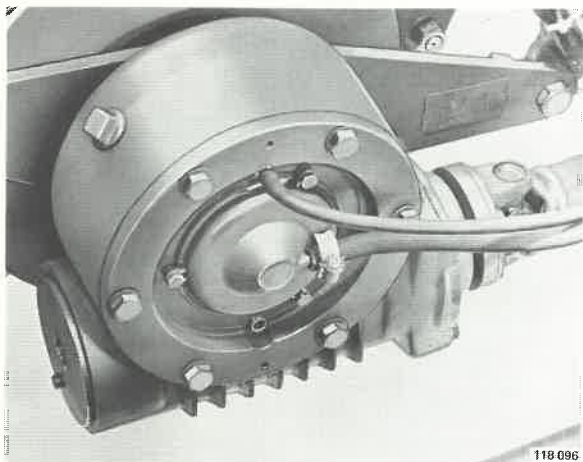

Fig. 92-38. Ventilation hose
8. Remove the ventilation hose and the hose to the control unit, see Fig. 92-38.